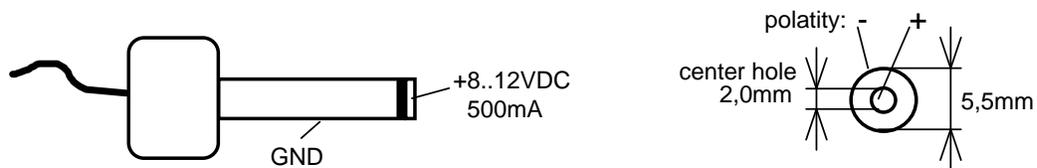

Figure 4: The power-plug
- Attach a power supply to the power-connector X5. An unregulated 8V to 12V/500mA power source can be used to supply the board. Use only a fixed voltage power supply and no power supply with variable voltage. Double check the correct polarity of the plug as shown in figure 4. If the power supply is attached correctly the red LED D4 will shine.